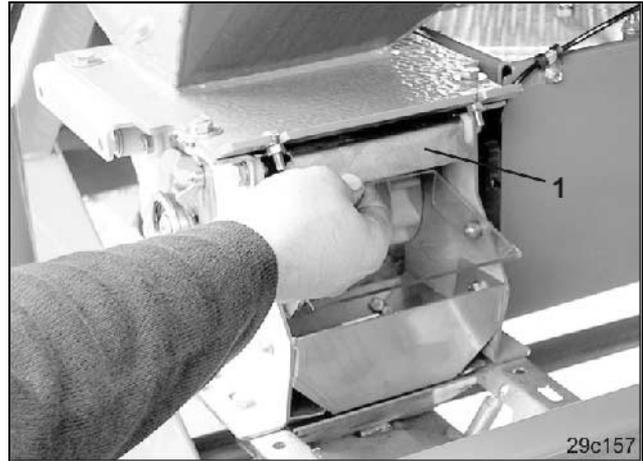

Fig. 56
- Close the shutter slide (Fig. 56/1), so that no seed can escape from the seed hopper.
- Figure (Fig. 56) shows the opened shutter slide.
Open the shutter slide (Fig. 56/1).